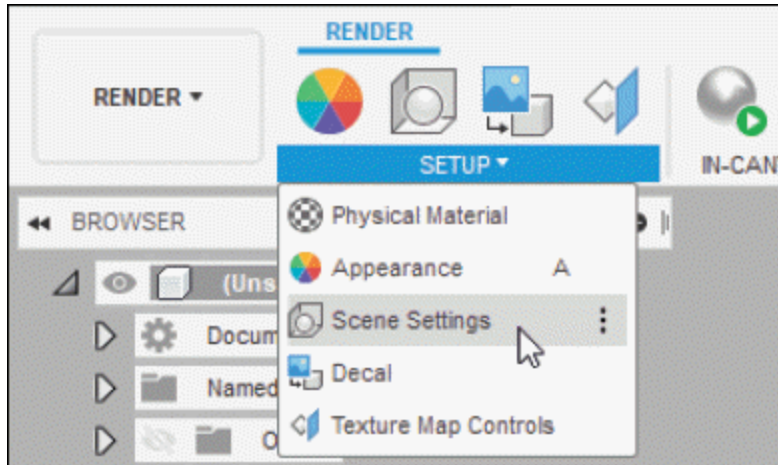
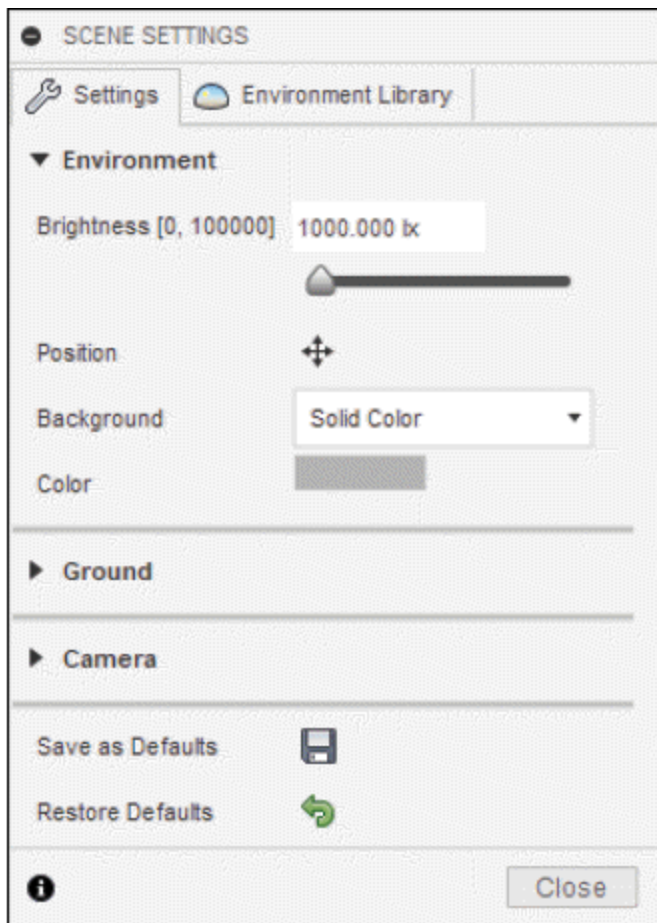

Figure-1. Scene Settings tool
Figure-2. SCENE SETTINGS dialog box
- Click on the **Scene Settings** tool of **SETUP** panel from **Toolbar**; refer to Figure-1. The **SCENE SETTINGS** dialog box will be displayed; refer to Figure-2.